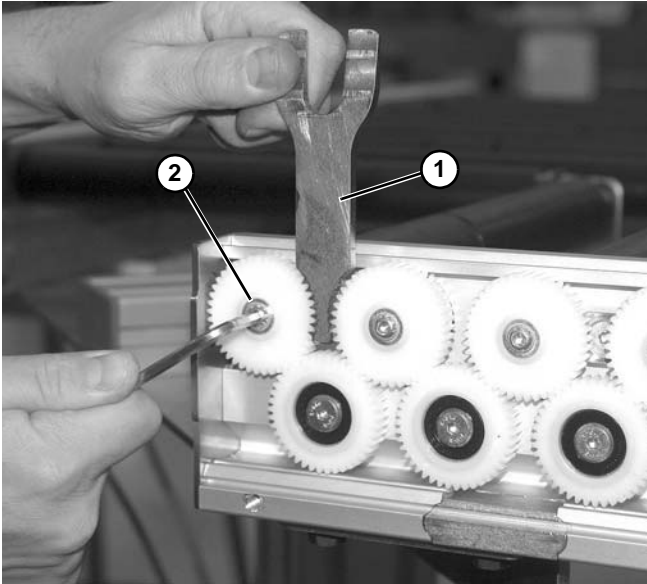

Figure 61
2. Install sprocket removal tool, part number 400289 (Figure 61, item 1) between gears.
3. Remove flanged button head screw (Figure 61, item 2) holding gear onto roller shaft.